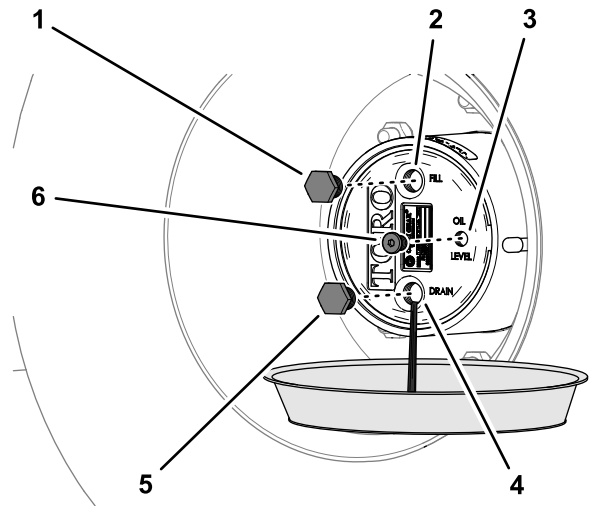

Figure 86
2. Place a drain pan under the hub of the planetary-gear drive, remove the drain plug, fill plug, and the check plug, and allow the lubricant to drain completely (Figure 86).